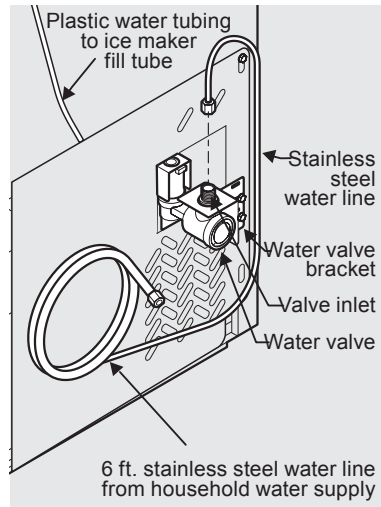

Figure 2
**If you use stainless steel tubing** - The nut and ferrule are already assembled on the tubing. Slide compression nut onto valve inlet and finger tighten compression nut onto valve. Tighten another half turn with a wrench; DO NOT overtighten. See Figure 2.